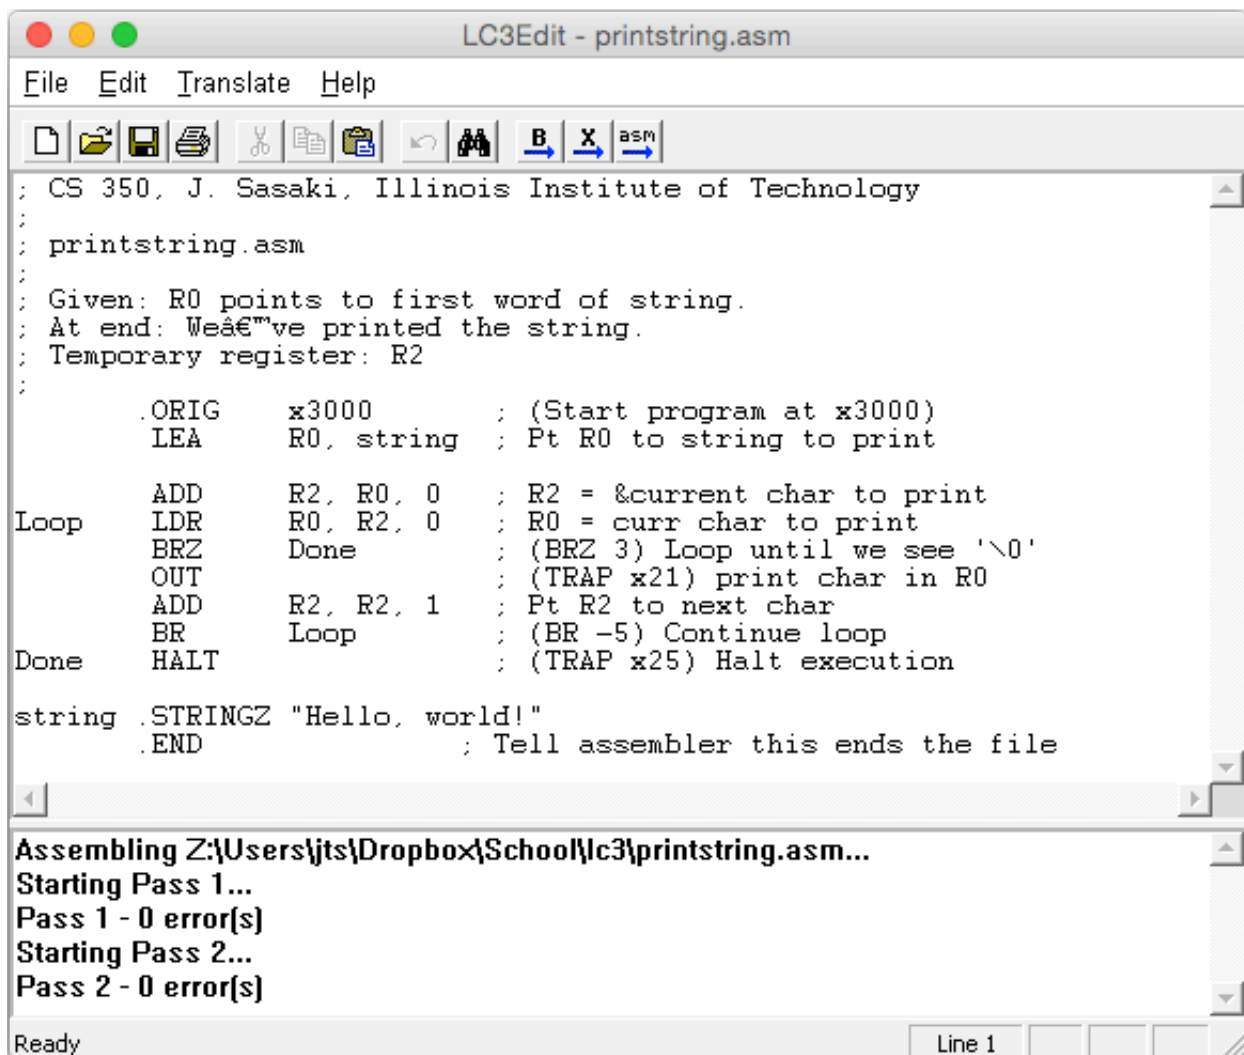

Figure 1. LC-3 Editor Window
- Figure 1 shows an editor window after assembling printstring.asm.